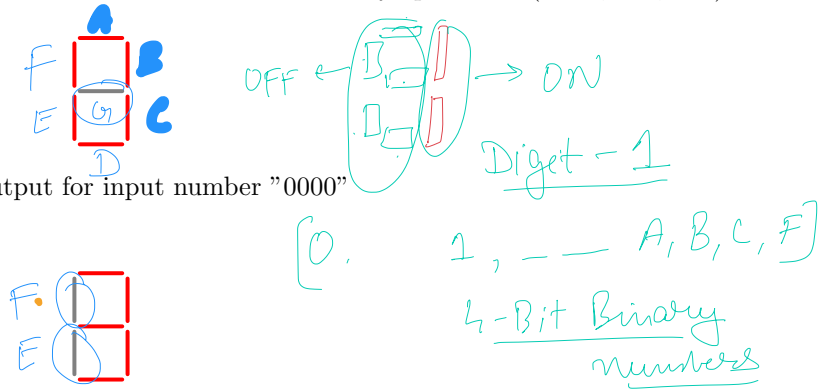

Figure 3: Output for input number "0011"
- Similarly, for "0011" LEDs F and E will be OFF, and the rest will be ON. Refer Figure 3.